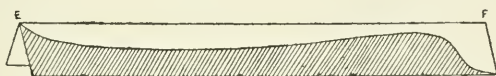

FIG. 116
and cut out as in diagram (Fig. 116); then unfolded and pasted on the bottom of a match-box (G), to which four small cardboard wheels are pasted. A B C D is then gummed along the back of the box G at right angles to E F.